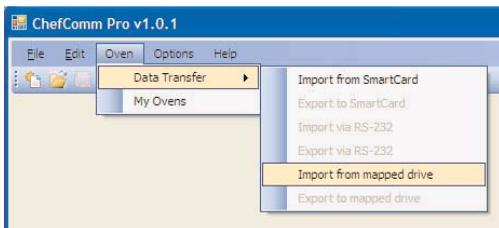

Figure 36: Import from Mapped Drive
5. From the main ChefComm window, select **Oven > Data Transfer > Import from Mapped Drive** (Figure 36).